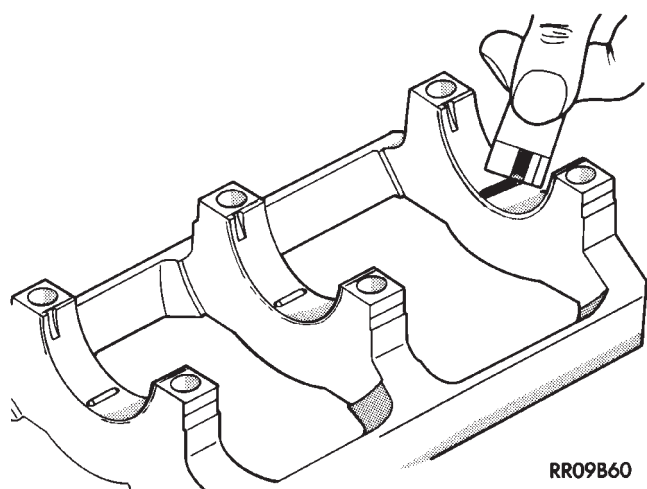

Fig. 8 Measuring Clearance
- (5) Carefully remove the bearing cap and measure the width of the plastigage at the widest part using the scale on the plastigage package (Fig. 8). Refer to specification (Fig. 6) for proper clearances. Also see Measuring Main and Connecting Rod Bearing Clearance in Standard Service Procedures.